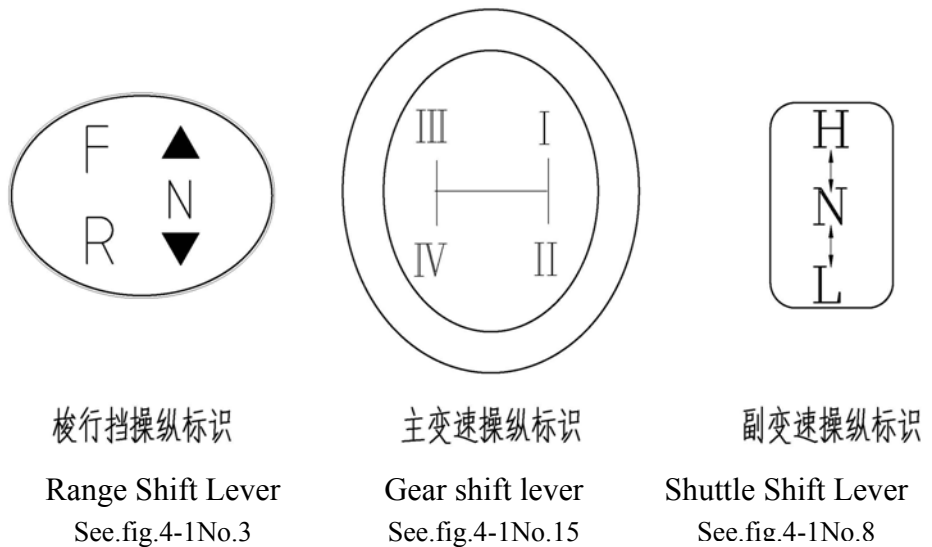

Fig.4-12
a) The basic gears of work are :Plough often use low III gear, low VI gear, high I gear; rotary tillage often use low I gear, low II gear, traction operations often use low III gear, low VI gear, high I gear, high II gear; transport operations often use high II gear, high III gear, high VI gear. Spindle gear , the main gear, high and low gear as shown in fig 4-12.
(2) When the tractor is on the road, it is forbidden to put the foot on the clutch pedal , or with the clutch to control speed ,it will make the clutch overheating and damage early.
(3) Reduce the throttle when the tractor steering. When working in the field, can use single braking, in order to reduce the turning radius. But when high-speed operation, it is forbidden to use single braking for a sharp turn. Feet should be on the clutch pedal and brake pedal at the same time when emergency braking, do not be alone on the brake pedal ,so as not to do damage to the brakes and other components.
(4) When the tractor mounted farm implements and do long-distance running, the hydraulic lock valve should be shut, and PTO lever should be in the neutral position.